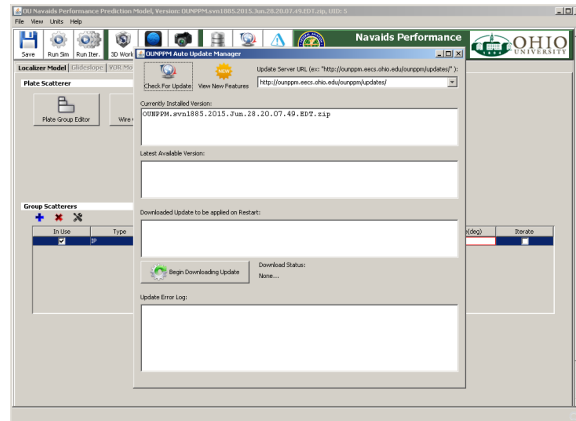

Figure 120: Clicking on the *Update* button from the main tool bar at the top of OUNPPM will open the Updater Window.
1. Click on the *Update* button from the main tool bar at the top of OUNPPM. This will open the Updater Window as shown in Fig.120.